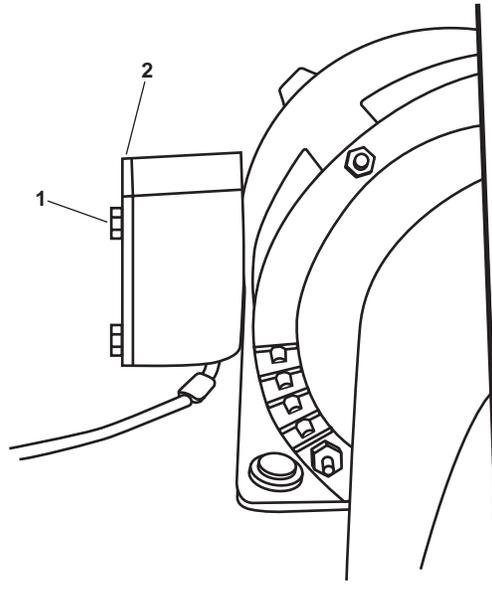

Figure 1. Electrical Junction Box
1. Remove the four bolts (figure 1, item 1) securing the electrical junction box cover (top) (figure 1, item 2).
2. Remove the junction box cover (top) (figure 1, item 2).